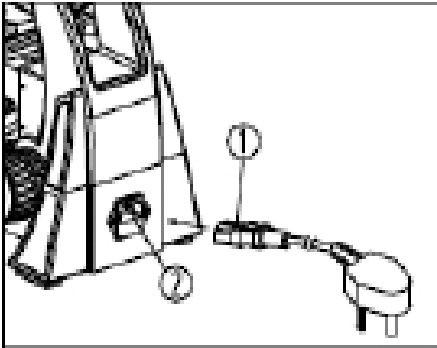

Fig. 7
2. Insert end of power cord (1) into the power socket (2) of the microscope. Then insert the power cord into a wall socket. (See Fig.7).